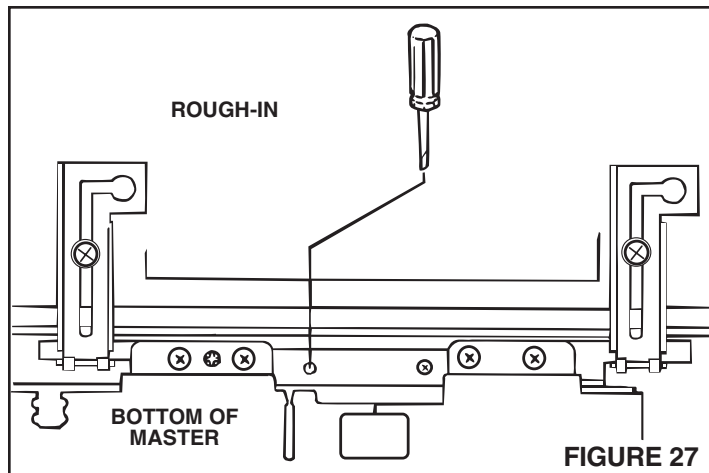

FIGURE 27
1. **Refer to Figure 27.** Using a thin-blade screwdriver, adjust the internal control counter-clockwise as viewed from the rear of the master station panel. This adjustment will reduce the intercom gain.